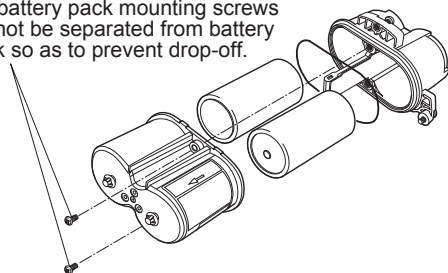

Figure 9.5 Removing the Battery Pack
- 1) Loosen the two battery case mounting screws (Figure 9.5).